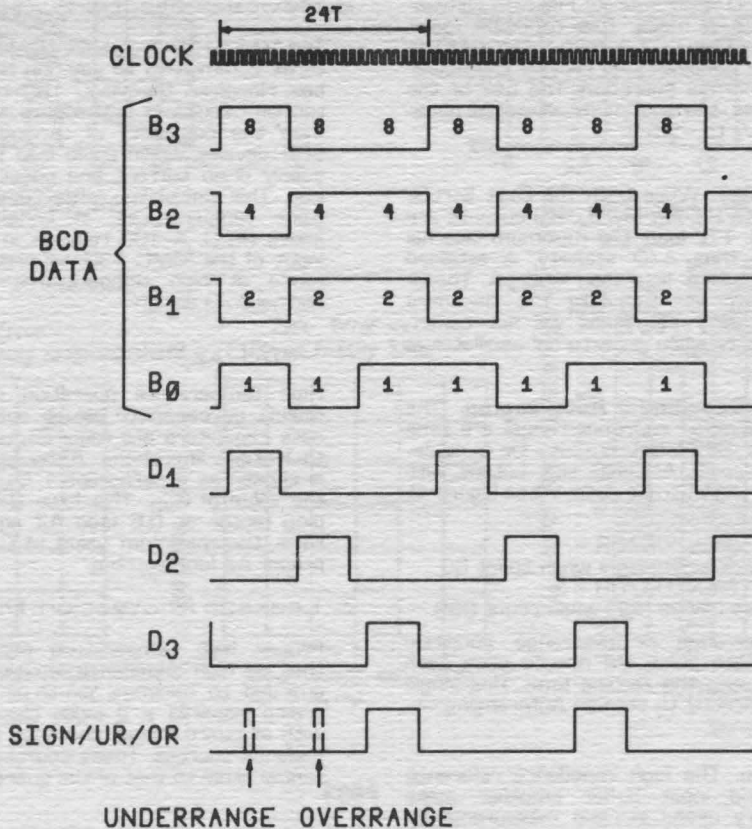

Figure 4. Data Output Format
The BCD data stored in the latches is continuously scanned, every 24 clock periods (8 clock times per digit). Sign information appears at the SIGN/UR/OR pin coincident with the D_3 strobe. Interdigit blanking of the Digit Strokes is achieved by taking on full clock period from both the leading and trailing edges of the strobes. Thus the digit is on 6 clock periods while the BCD data for that digit appears for the full eight clock periods. Figure 4 shows the Data Output Timing.
6. Range Signal Decoding Autoranging. The ranging signals (overrange and underrange) are time multiplexed on the SIGN/OR output. De multiplexing consists of logically ANDING this output with either the D_1 or D_2 Digit Strobe output (see Figure 4). Thus: